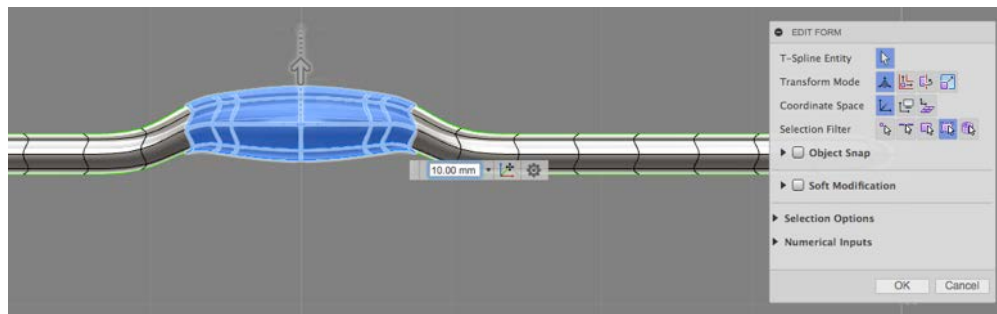

Fig. W06
- f. Change Selection filter to “faces”, select faces for case and scale/move up to refine position of case/bracelet (Fig. W06).